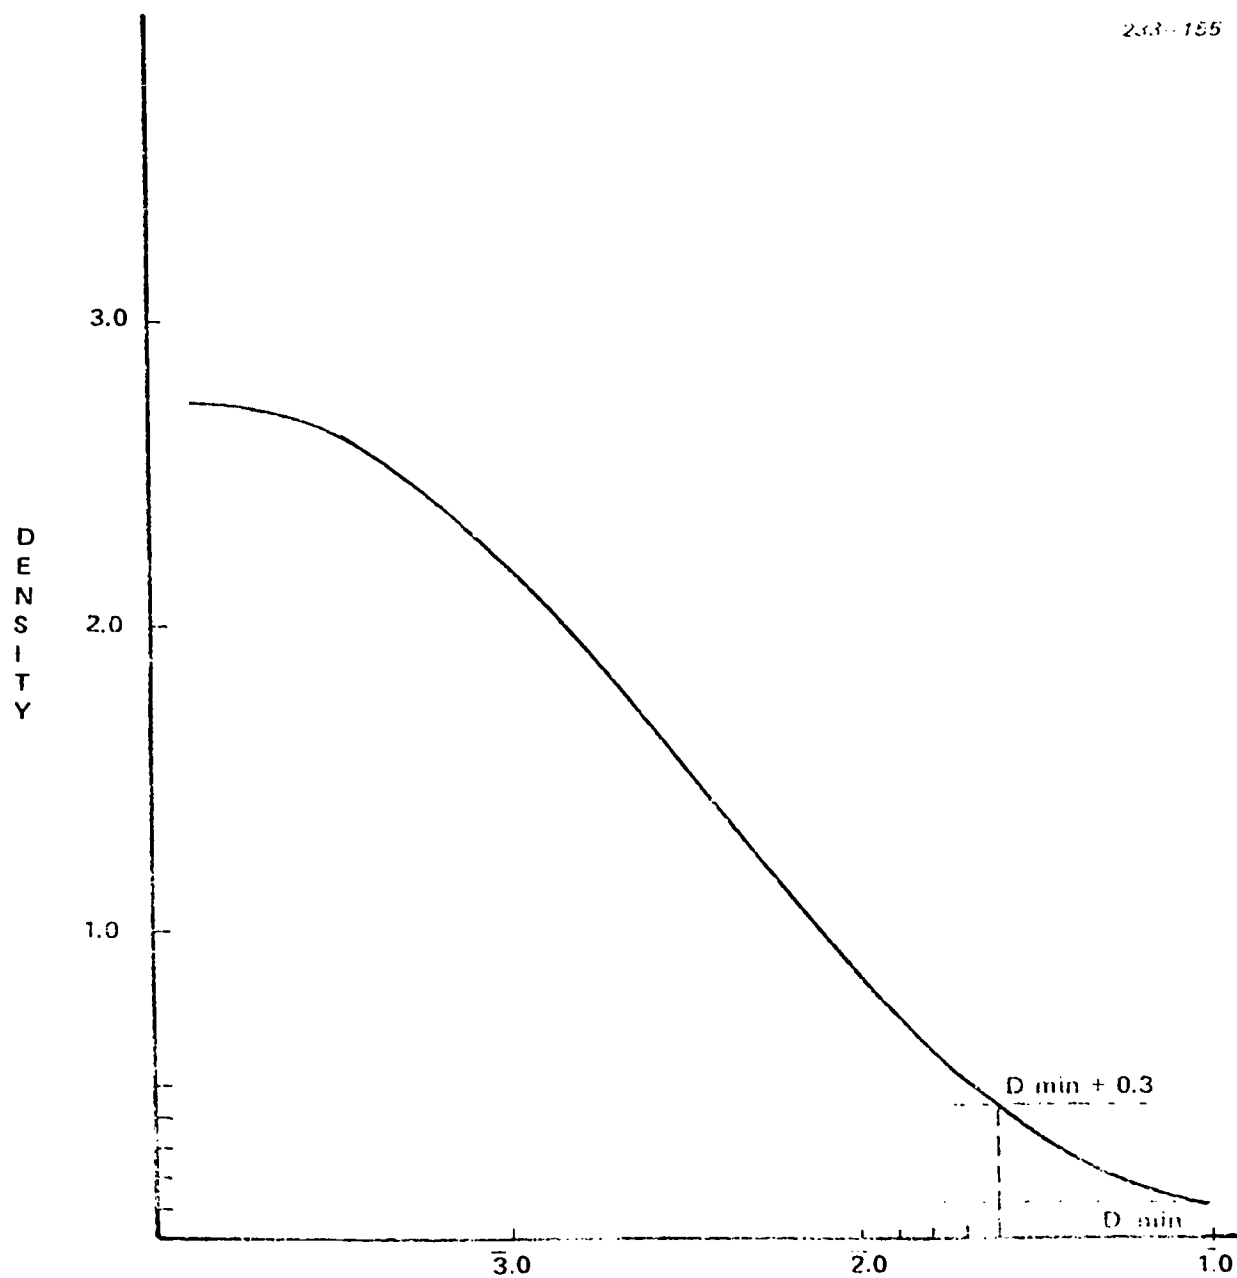

Figure 2-3. EAFS speed determination for color reversal film.
The method for producing either is identical and is defined as $3/2H$, where H is the exposure (in meter-candle-seconds) at the point on the characteristic curve where the density is 0.3 above base-plus-fog density. An example of this determination for color reversal materials can be found in figure 2-3. The sequence for determining this value is as follows:
As further illustration, follow the procedures listed below while viewing figure 2-3.
(1) The base-stain density for the illustrated curve in figure 2-3 is 0.12. Add 0.30 to this value and locate that point on the characteristic curve.
(2) The log H value produced at that density point is found to be 2.39. The antilog of this value is 0.0245; 0.0245 multiplied by 2 = 0.049.
(3) Next, divide 3 by 0.049 to yield 61. Therefore 61 is the EAFS for that film.